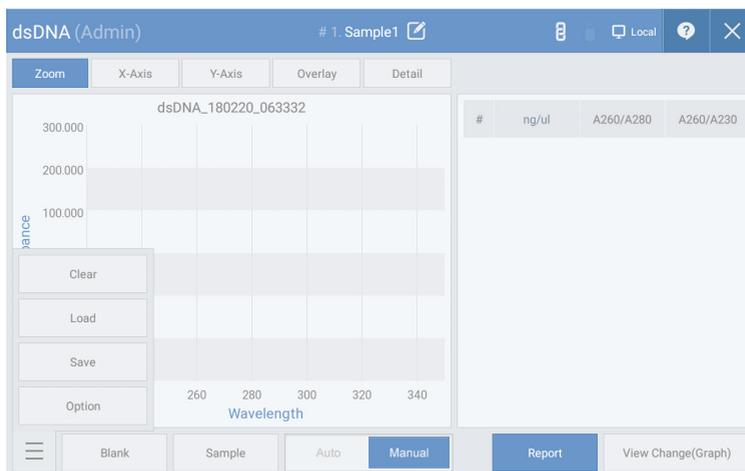

Fig. 3.1
1. Click the "Settings" button in [Fig. 3.1] to set the measurement environment.
2. Load the blank sample and click "Blank" shown in [Fig. 3.1] to measure the zero point.
4. Load the sample and click the "Sample" button shown in [Fig. 3.1] to begin measurement.